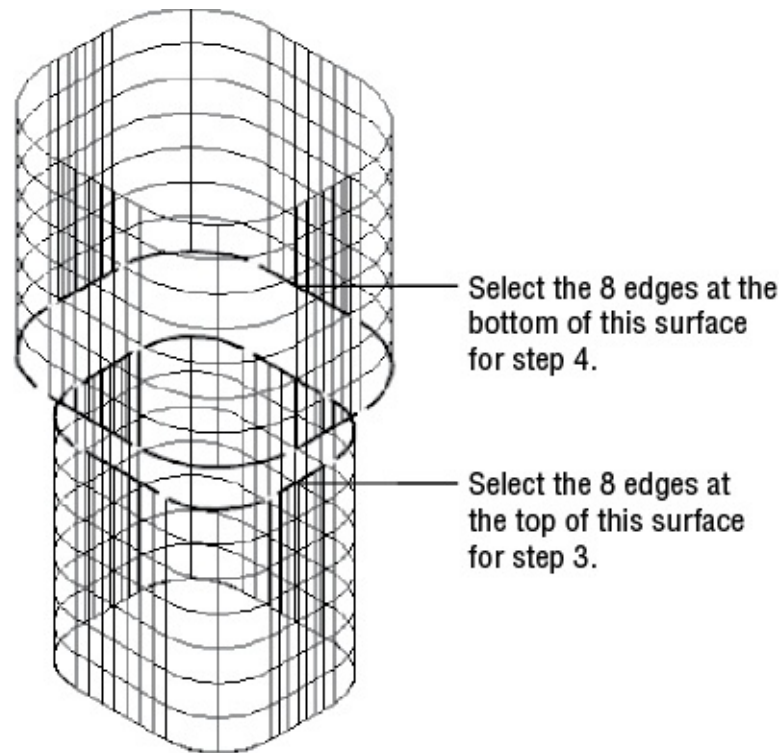

FIGURE 23.47 Selecting the edges for the Surface Blend tool
3. Hold Ctrl and click to select the eight edges along the top of the lower surface, as shown in Figure 23.47. When you're sure that you've selected all the edges, press \leftarrow . You can also select the Chain option, which will find all edges that are connected.
4. Hold Ctrl and select the eight edges along the bottom of the upper surface, as shown in Figure 23.47. When you're sure that you've selected all the edges, press \leftarrow . A new preview surface appears that joins the upper and lower surfaces.